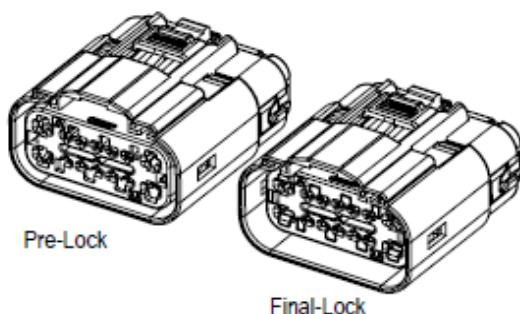

Figure 1
- Make sure TPA is in the "pre-lock" position in the female housing. See figure 1.
- Once all the terminals are inserted in the correct position, then press the TPA into the "final lock" position as shown in figure 1. If the TPA will not move into the final-lock position, verify that all terminals are fully seated.